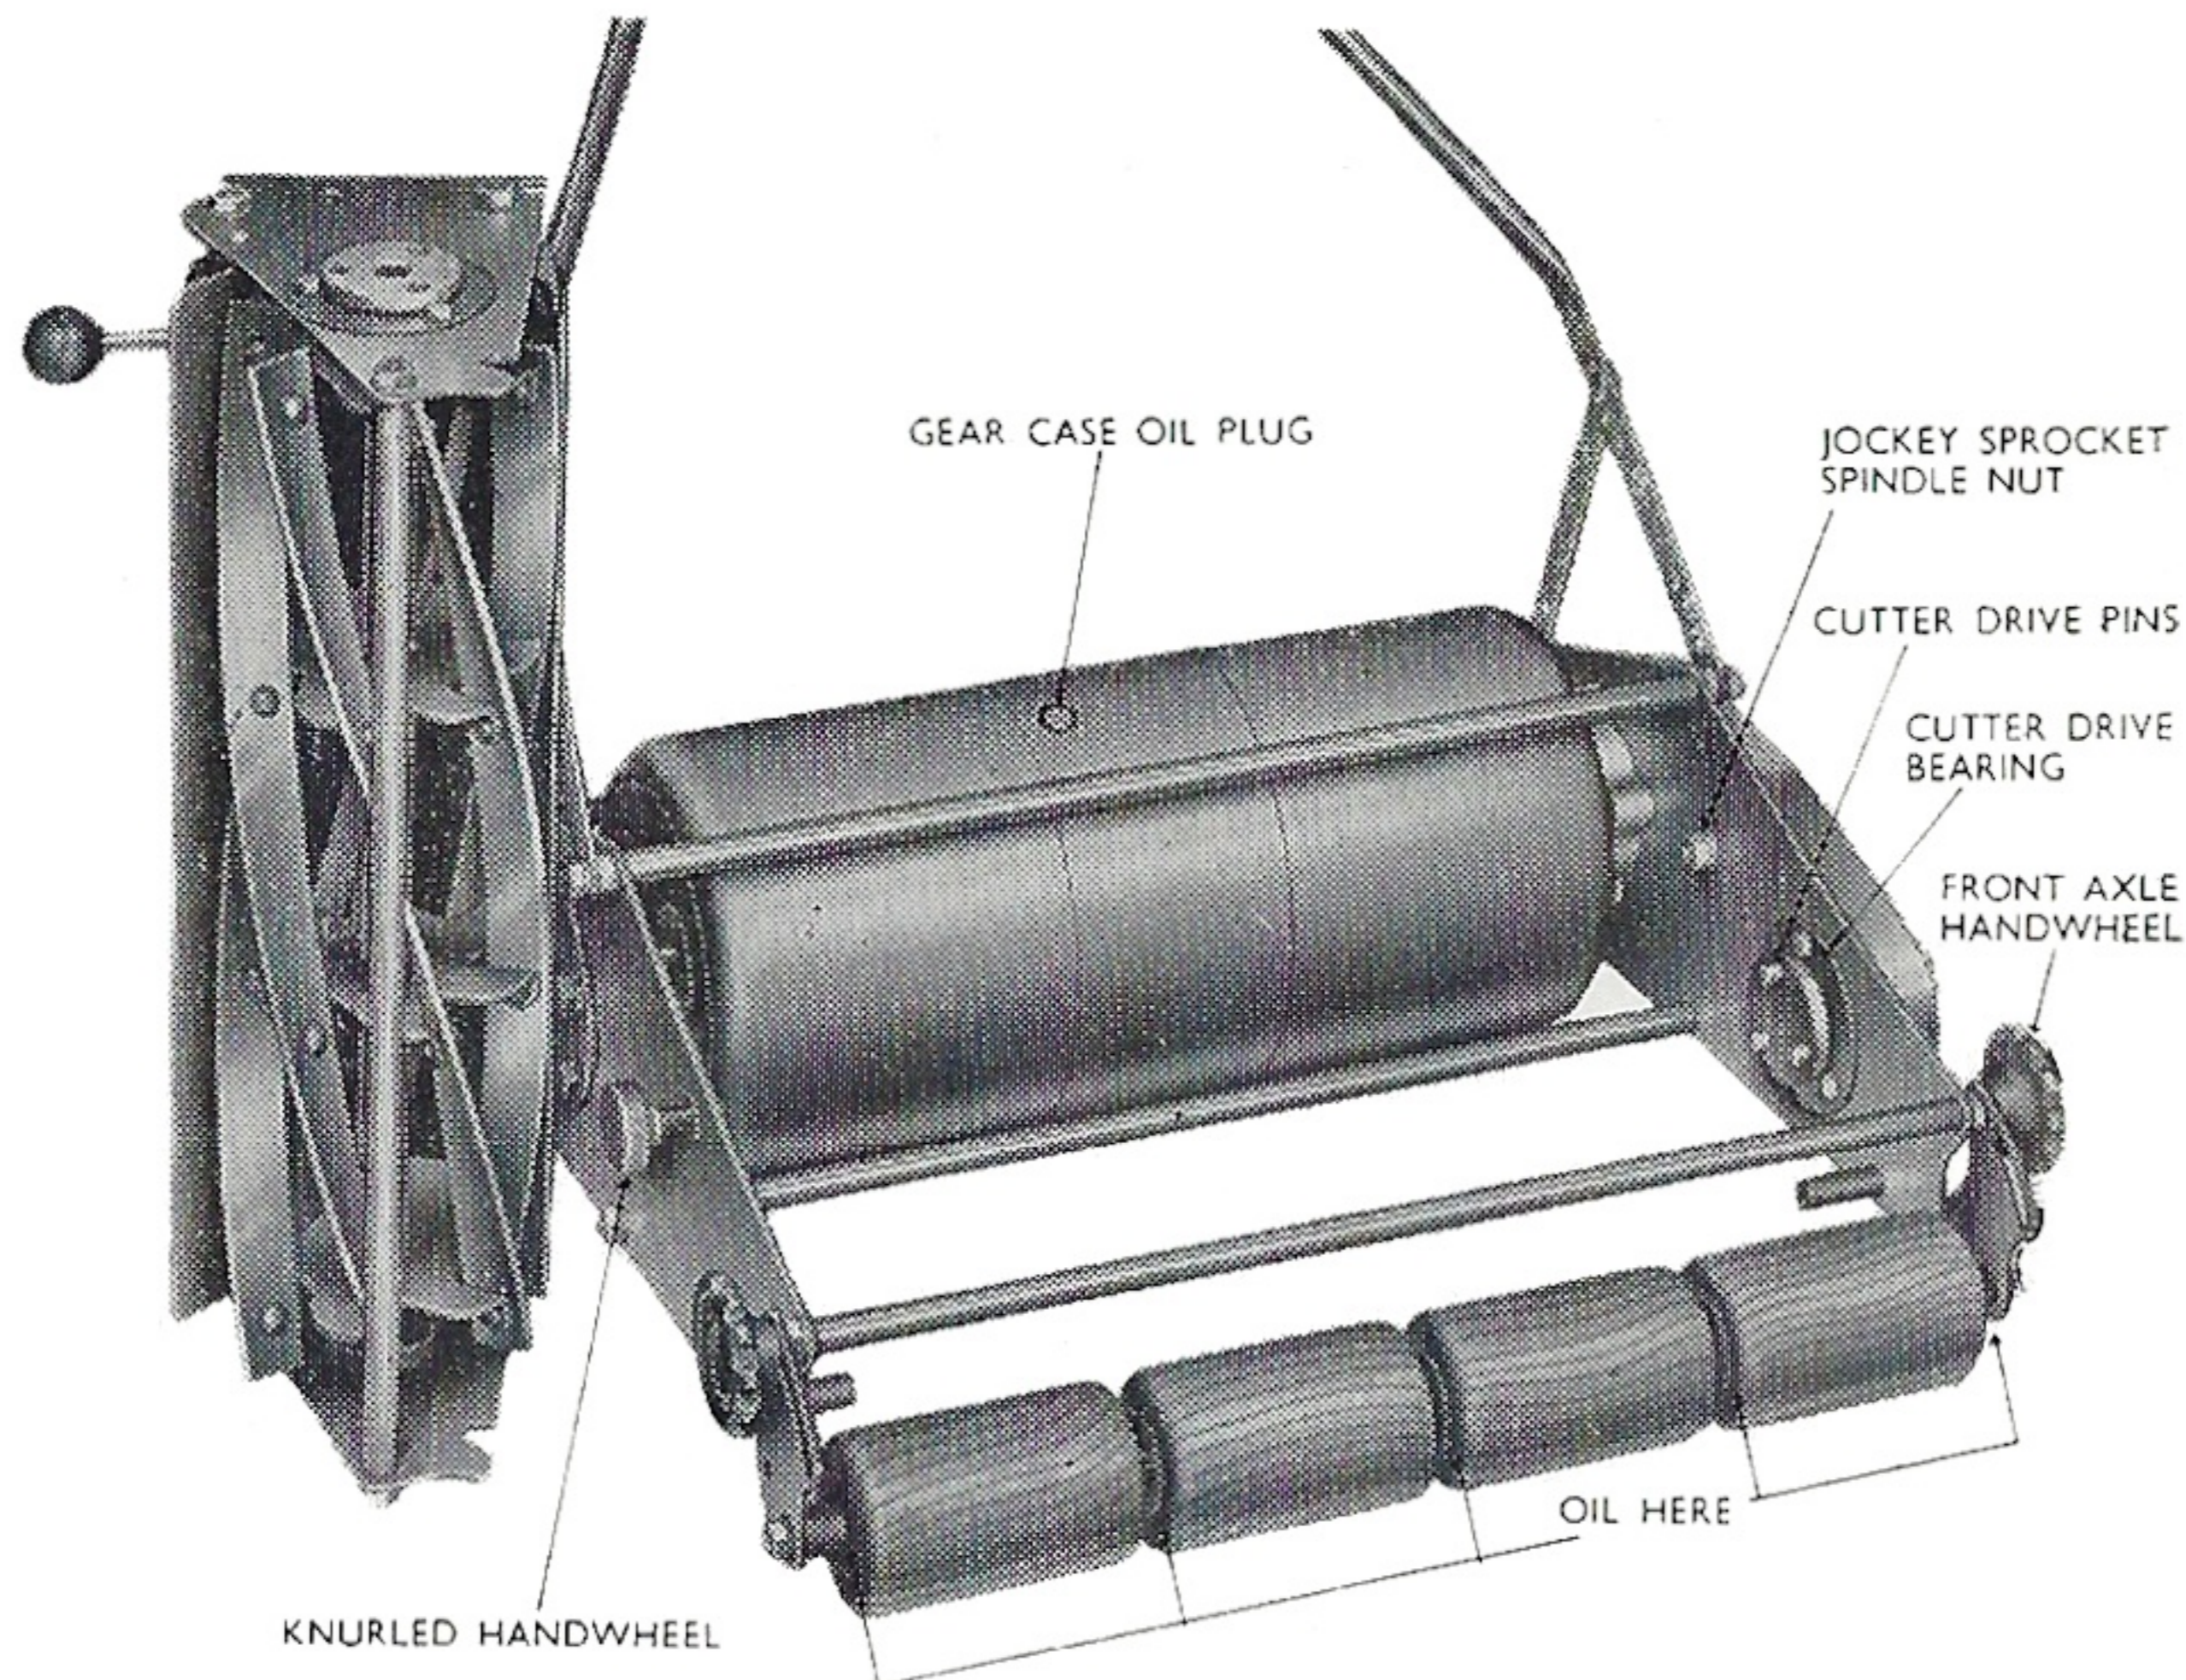

Fig. 1
- (1) **Front Rollers** apply oil at the space provided between each roller. To assist the feed of oil, tip the machine on each side. (Medium grade oil every week). Fig. 1.
- (2) **Rotary Cutter Bearings**, first remove detachable unit. Now place the unit carefully on its side when a rubber plug will be seen in the bearing cover. This should be removed and oil applied to the bearing, afterwards replace.
- (3) **Front Cutter Drive Bearing** located in the main side frame by first removing the cutter unit. The oil hole will be seen through the large hole in the flange of the cutter coupling. (Medium grade oil every two weeks). Fig. 1.
- (4) **Rear Axle Drums and Bearings**. Lubricate by first standing the machine upright with the handlebars against a wall. A grease gun lubricator will then be seen each side in the aluminium bearing housings and grease should be applied with the grease gun.
- (6) **Rear Roller Assembly.** The centre section gear case chamber of the rear roller is an assembly in two halves and contains the epicyclic speed up gears which run in an oil bath inside the gear case chamber. The chamber should be topped up once during the season by applying a charge of oil (about a small eggcupful) into the gear case. Access to the oiling point is made by first unscrewing the hexagon brass cover screw seen in the recess of the centre section rear roller, Fig. 1.
This adjustment is made by the front axle hand wheels (Fig 1). First unscrew both hand wheels for a turn. The adjustment of the front roller axle can then be set to the desired position in accordance with the close setting required.
The jockey sprocket will be seen positioned between the two driving sprockets and can be released for adjustment by first unscrewing the nut of the jockey sprocket spindle on the inside of the side frame (Fig. 1).
To clean the machine thoroughly, the cutter unit can easily be detached from the chassis by unscrewing the knurled handwheel seen on the right hand side frame (Fig. 1).
The cutter unit can then be moved over to the left as far as it will go, clear of the engaging drive pins and then lifted out from the chassis (Fig. 1). Care should be exercised when cleaning the unit to keep the fingers away from the bottom shear blade and the rotary cutter blades. Handle the unit carefully and do not bump or subject it to shock otherwise the parallel cutting adjustment may be disturbed.